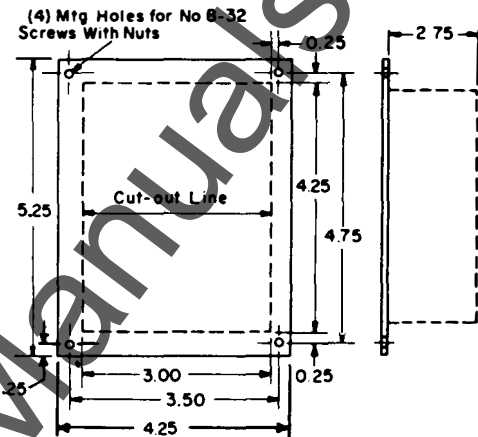

Figure 8
**MONITOR PANEL** — See outline dimensions Figure 8. — Designed to be flush mounted in such a position that the fault indication will be readily visible and pushbuttons can be operated conveniently.